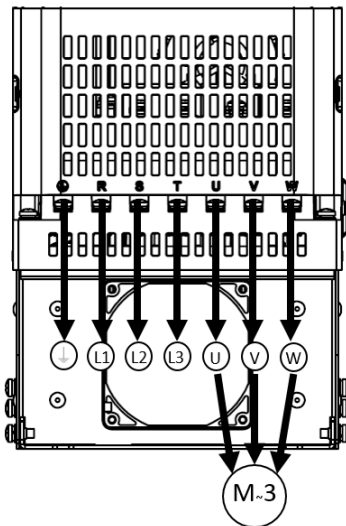

Figure 4: Wiring EV3150B, EV3185B
**Figure 4** shows the general wiring to the power grid and to the compressor. This wiring diagram does not show any system-related components like fuse breaker, RCD and the additional ferrites for EMC.